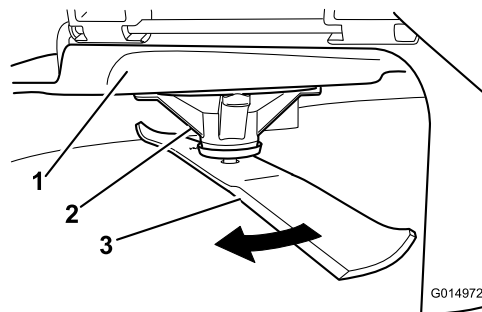

Figure 64
2. While wearing thickly padded gloves, or other adequate hand protection, slowly rotate the blade into a position that allows you to measure the distance between the cutting edge and the level surface the machine is on (Figure 64).